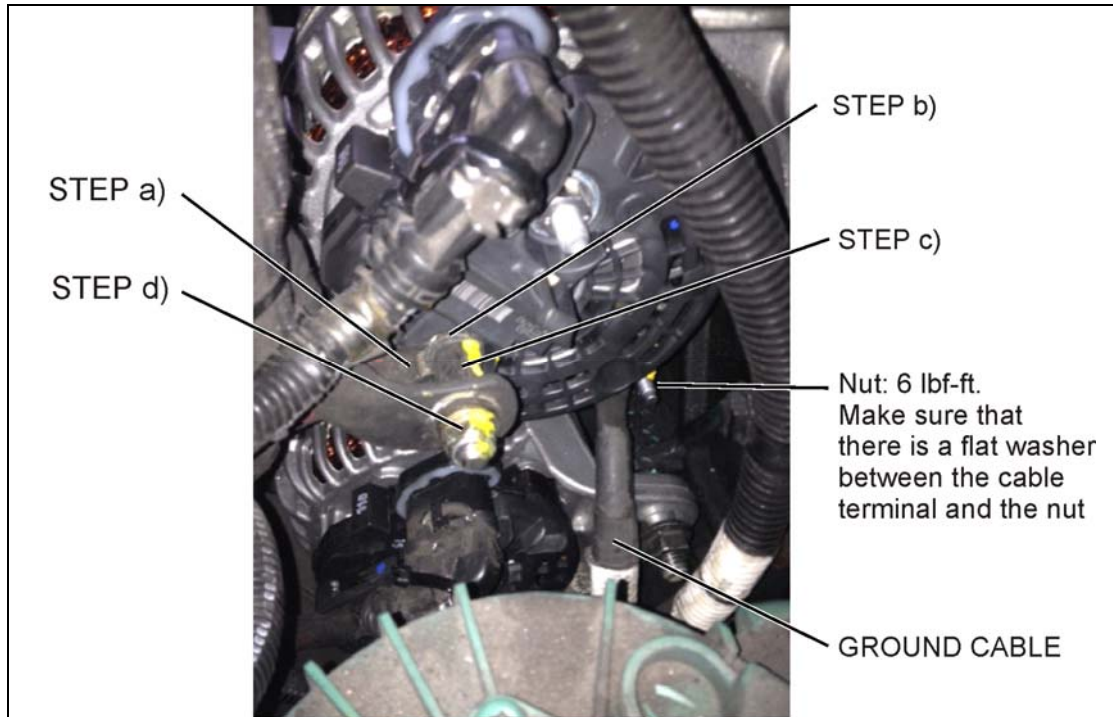

FIGURE 28
- Install jumper cable (a.k.a. positive cable) onto **B1+** stud terminal on upper alternator (FIGURE 28).
- Place one new flat washer #5001341 against the cable ring terminal (FIGURE 28).
- Screw and tighten the adapter stud #060297 (torque: 10 lbf-ft) (FIGURE 28) prior installing power cable.
- Fit the power cable terminal onto adaptor stud, place one new flat washer #5001341 against the power cable terminal and screw a new nut #5001787 (nut torque: 10 lbf-ft) (FIGURE 28).
15. Fit the ground cable onto the alternator ground stud, place one new flat washer #502573 against the ground cable terminal and screw a new nut #5001182 (nut torque: 6 lbf-ft) (FIGURE 28).